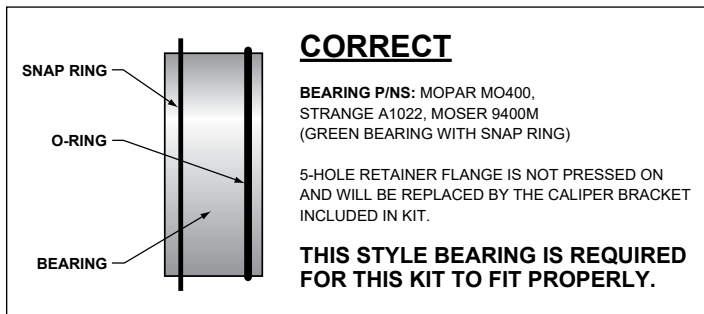

Figure 1. Snap Ring Bearing Configuration
- It is important to verify which bearing you have. There are two types of “Green Bearings” being supplied by axle manufacturers. Your setup should look like Figure 1, otherwise you have the wrong kit.
- Determine that the appropriate snap ring style Green bearing has been installed on the axle, as shown in Figure 1.